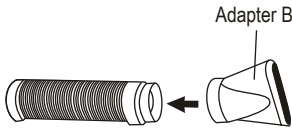

Fig. 14
2. Install Adapter B on the other end of hoses (Fig. 14) and insert into Window Slider Kit openings (see previous pages for Window Slider Kit installation).